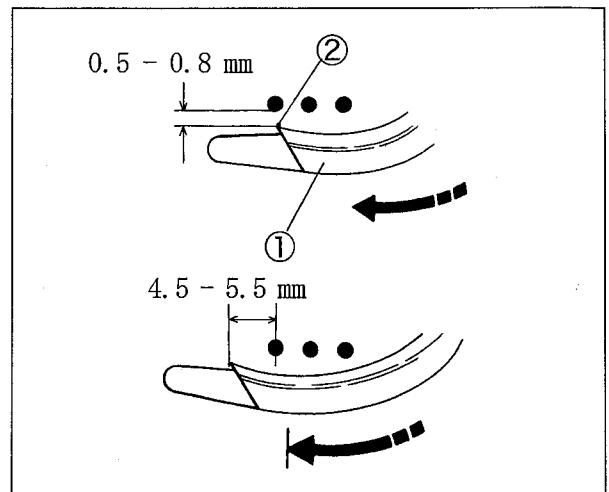

Fig. 43
- (2) Make a clearance between the left needle and the hook ② of the spreader ① to 0.5 - 0.8 mm. (Fig. 43)
- (3) Make a clearance between the center of the left needle and the hook ② to 4.5 - 5.5 mm when the spreader ① is at the extreme left. Then tighten the screw ④ securely. (Figs. 43 and 45)